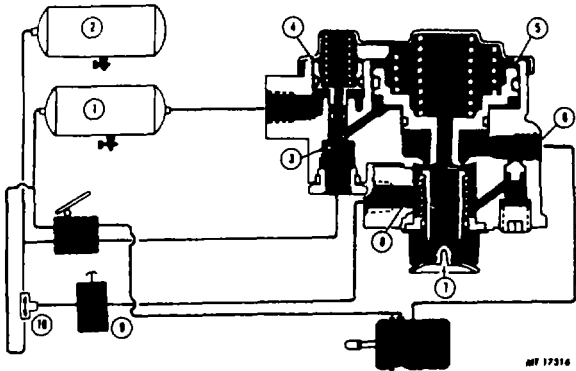

Fig. 6 Brake Application, Loss of Air In Secondary System
**Brake Application with Loss of Air In Secondary System (Fig. 6)**
If air pressure is lost in the secondary reservoir, the primary reservoir as well as the spring brake control valve is protected against air loss through action of single check valve (air source to primary reservoir) and double check valve (Fig. 6). A brake application at brake valve in this situation results in little or no air being delivered from the secondary system to the control port of inversion valve. No movement of the internal components of the valve takes place. Braking is assured since the primary reservoir is protected and the primary delivery system of the brake valve will apply the service brake portion of the spring brake chambers.